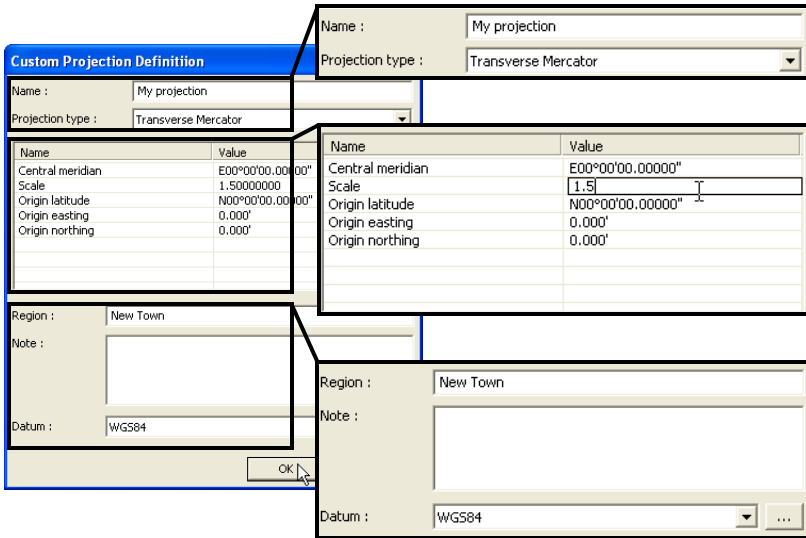

Figure 2-37. Create Custom Projection
The *Custom Datum Definition* dialog box displays (Figure 2-37 on page 2-34).
2. Enter parameters to define the custom projection (Figure 2-37 on page 2-34):
- NOTE: You can enter new parameters or keep the default values (Figure 2-37 on page 2-34)
3. Click **Ok** to save the custom projection (Figure 2-37).